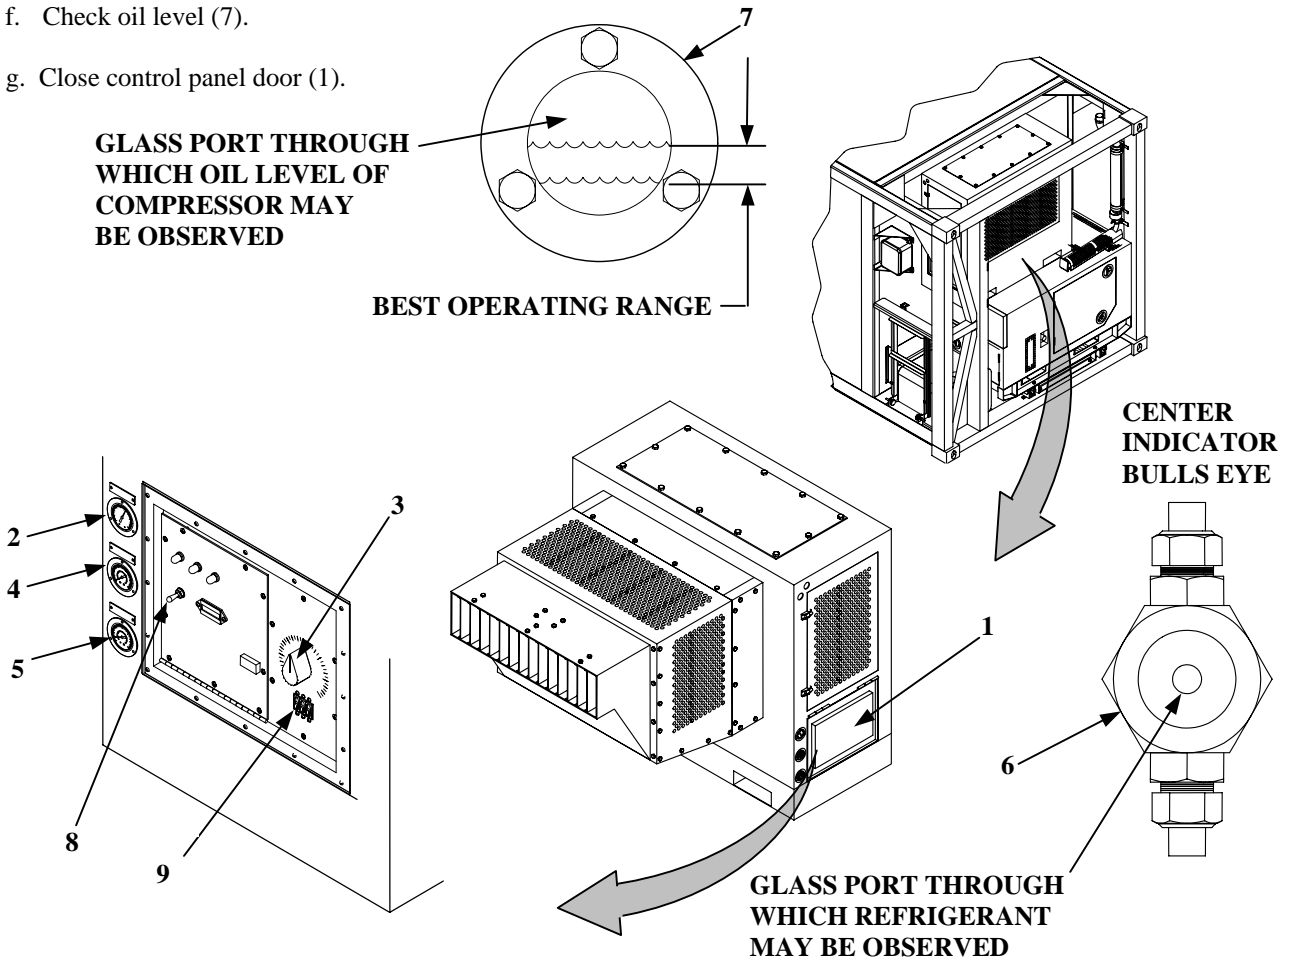

Figure 13. Refrigerated Container, Continuous Operation, Refrigeration Unit
1. Check operation of refrigerated unit (Figure 13):
- a. Open control panel door (1) and secure in the upright position.
- b. Check the REFRIGERATION TEMPERATURE (2) periodically to be sure it is within 15°F (7°C) of the temperature set on the TEMPERATURE CONTROL (3).
- c. Check the pressure DISCHARGE PRESSURE gauge (4) periodically to be sure it is between 165 and 250 psi (1138.5 and 1725 kPa).
- d. Check the compound SUCTION PRESSURE gauge (5) periodically to be sure it is between 0 and 15 psi (0 and 103.5 kPa).